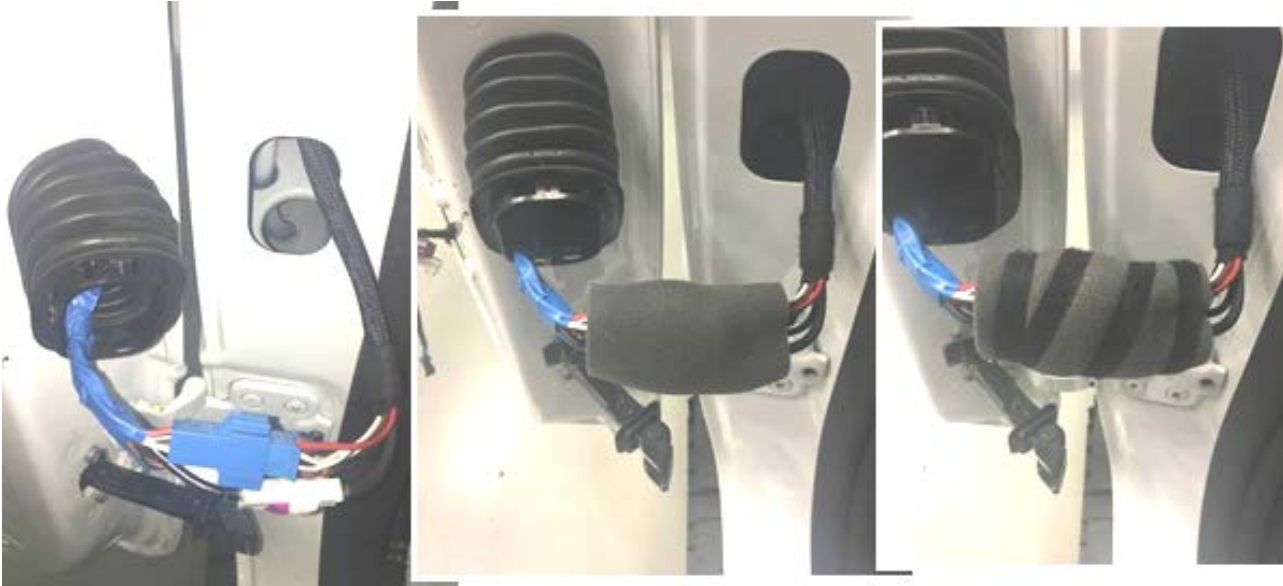

Figure 9
5. Wrap self-adhesive felt around the connecting points of the wiring harness and tape down with fabric tape. (figure 9)